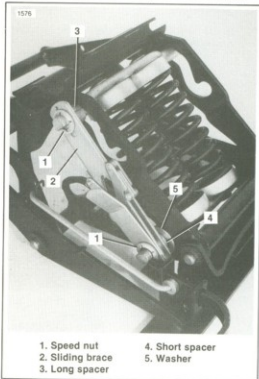

Figure 2-112. Suspension Assembly
- See Figure 2-112. Remove the speed nuts (1) from the adjusting rod and cross shaft. Remove the sliding brace (2), long spacer (3), short spacer (4) and washer (5).
- See Figure 2-112. The frame should only be disassembled if it is badly bent or cracked. Remove the speed nuts and pull the shafts from the frame.
2. See Figure 2-112. Place the springs into the retainers. Place the washer (5) and short spacer (4) on the adjusting rod. Place the long spacer (3) on the cross shaft. Install the sliding brace (2) tight against the end of flat on cross shaft and secure it with two speed nuts at each end.